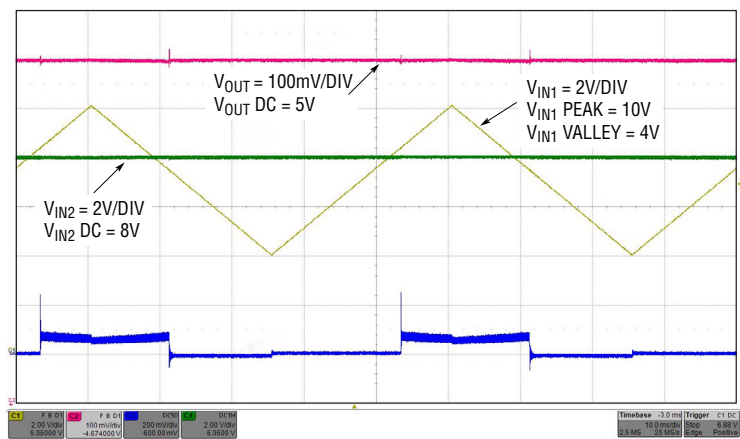
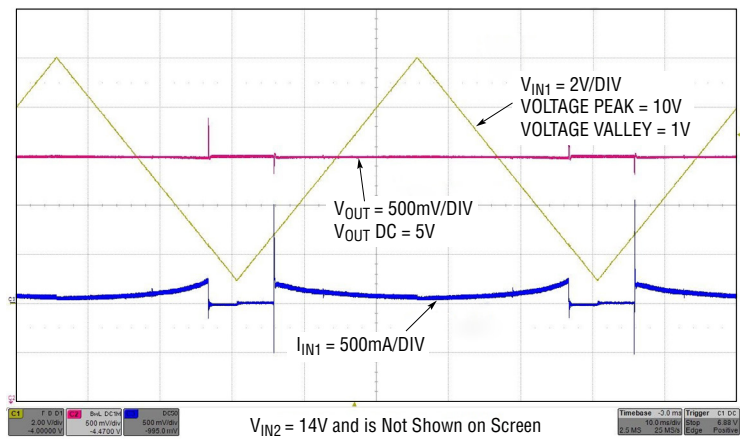

Figure 2. Ideal Diode Mode Operation
Figure 3. Transitioning from V_{IN1} to V_{IN2} and Back in PRIORITY Mode Operation with V_{IN2} at 14V
System level features include selectable IDEAL DIODE Mode (shown in Figure 2) or PRIORITY mode operation (shown in Figure 3)
9. Now decrease the voltage on PS1 and observe that when the voltage on V_{IN1} falls below the voltage on PS2, PS1 stops supplying the power and PS2 takes over. See Figure 2 for typical performance for steps 8 and 9.
11. By cycling the voltage on PS1 from 1V to 10V you can observe the transition of power from PS2 to PS1 and back as the voltage on V_{IN1} goes through its startup (approximately 2.9V) and shutdown (approximately 2.5V) thresholds. Typical response is shown in Figure 3. Turn off PS1 and PS2.